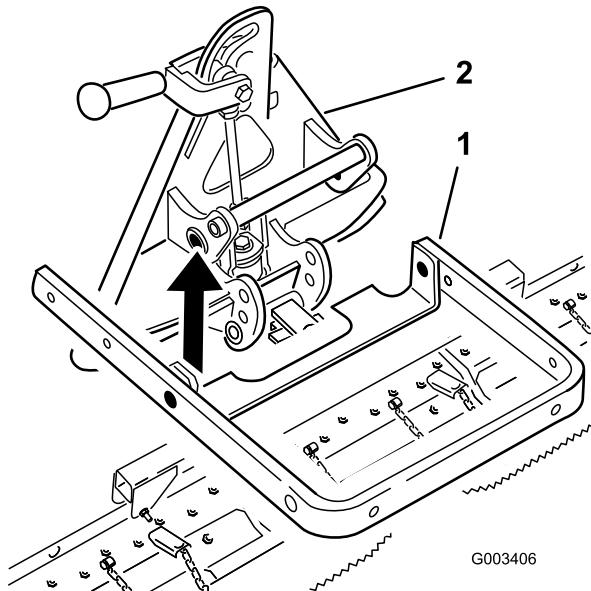
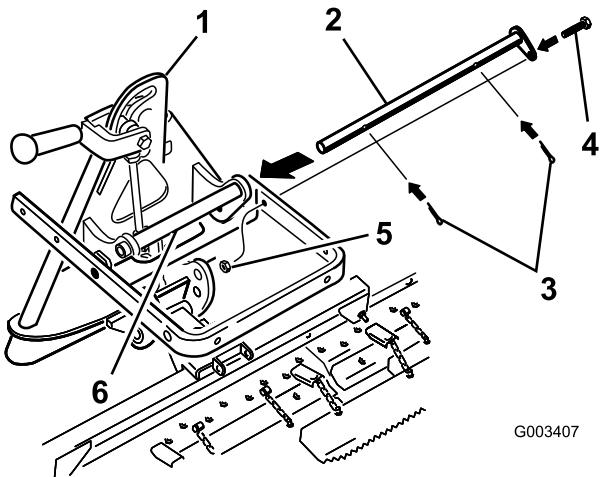

Figure 4
Figure 5
2. Align the lift arm with the bracket on the attachment adapter (Figure 4) and connect them using the pivot bar as illustrated in Figure 5.
**Note:** When moving the attachment adapter, use the handle provided on the back of the adapter (Figure 5).
3. Secure the pivot bar with 2 cotter pins and a bolt (3/8 x 1-1/4 inches) (Figure 5).
Always lift and move the attachment using the handle on the back of the attachment adapter (Figure 5).